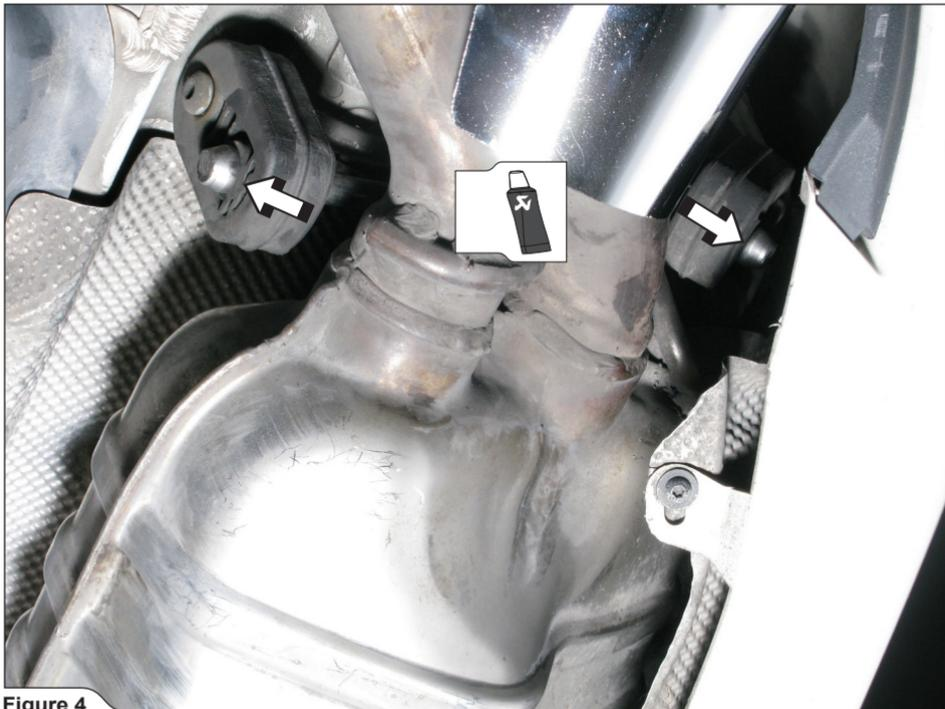

Figure 4
3. **For Slip-On only:** carefully pull the rubber brackets off the muffler on both sides of the vehicle and remove both mufflers (Figure 4).